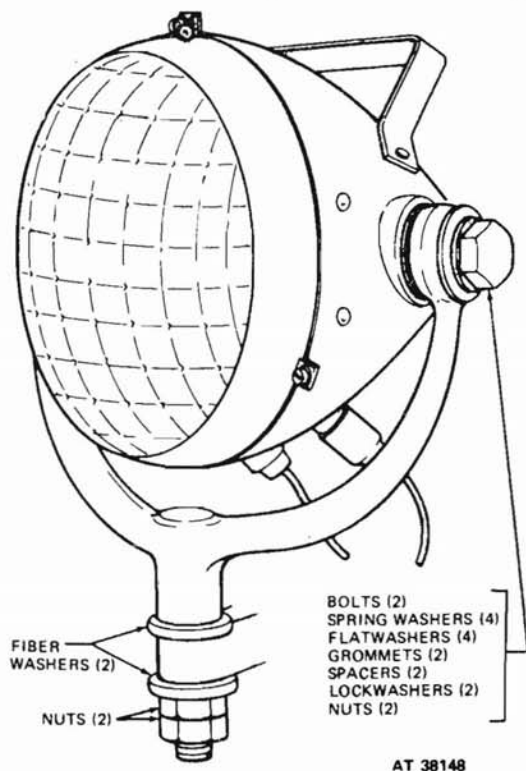

Figure 470. Floodlight and bracket assemblies.
d. **Floodlight Replacement (Fig. 470).**
- (1) The floodlight assembly may be removed from the swivel bracket assembly by removing two bolts, four spring washers, four flatwashers, two grommets, two spacers, two lockwashers, and two nuts. Reassemble in reverse order of removal.
- (2) The floodlight and swivel bracket may be removed as an assembly by removing two nuts and two fiber washers. Lift floodlight assembly from support.